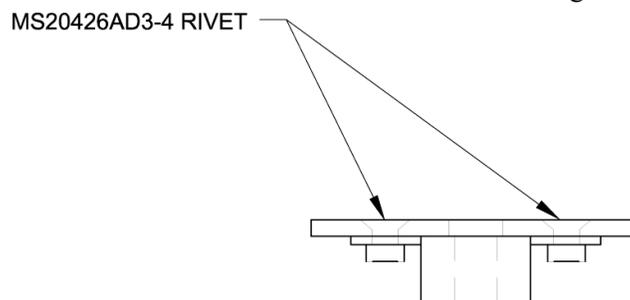

Figure B-16 Riveted Nut Plate And Disk
11. Rivet nut plate to disk with MS20426AD3-4 rivets as shown in Figure B-16.